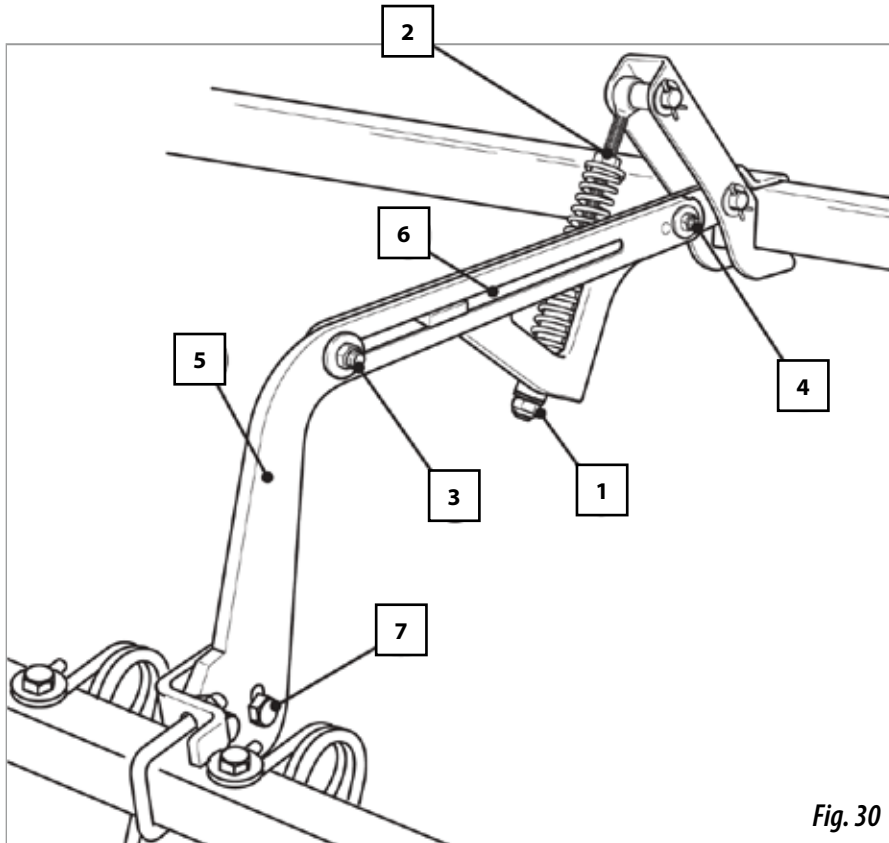

Fig. 30
- 1- Height adjustment, by operating the lower nut (fig 30/1)
- 2- Pressure adjustment, by using the spindle's upper nut (fig 30/2)
- 3- Tines's inclination, by operating the slide (fig 30/7) which holds the tines' chassis
- Loosen the nut (fig. 30/3)
- Take out both the screw and the nut (fig. 30/4)
- Pull back the bar (fig. 30/5) and place both the screw and the nut in the hole that is in the middle of the bar (fig. 30/6).